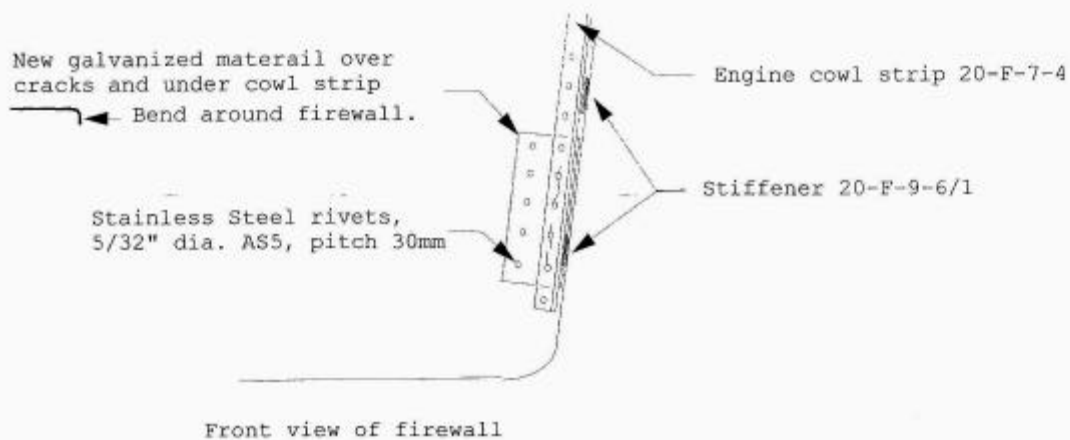

Fig. 2
5. Install the galvanized plate(s) over the cracked area on the front face of the firewall, under the cowl strip, and on the inside of the fuselage side skins. Refer to Fig. 2. Rivet the plate(s) in place from the engine side of the firewall, securing the cowl strip over the plate.
To strengthen the retention of the cowl strip, stainless steel stiffeners are to be installed in the area of the two lower cowl nut-plates on the left-hand and right-hand sides of the aircraft. Refer to Fig. 2 and Fig 4.